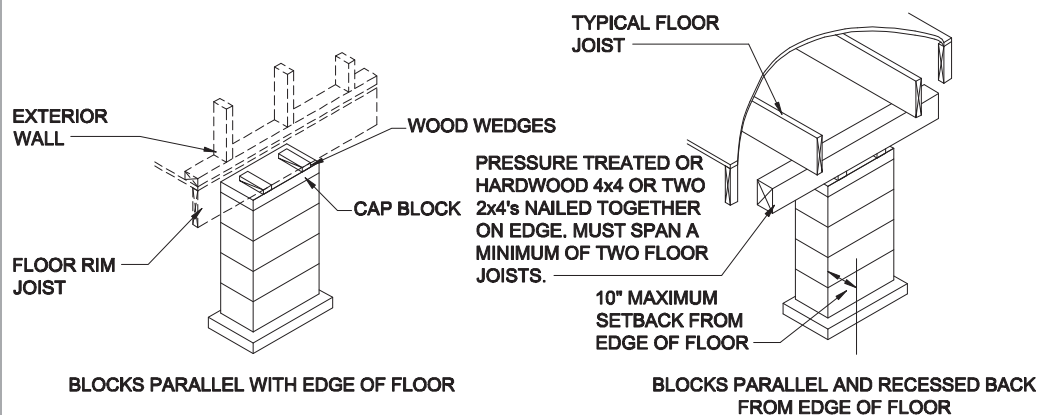

Figure 12. *Perimeter supports*
- Recess perimeter pier supports no more than 10 inches from the edge of the floor with added support as shown in **Figure 12**.